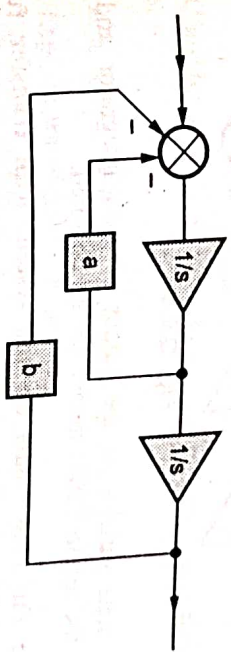

Fig. Q.9.2
- If this group is added in the forward path of another such loop, we get block diagram as shown in the Fig. Q.9.2.